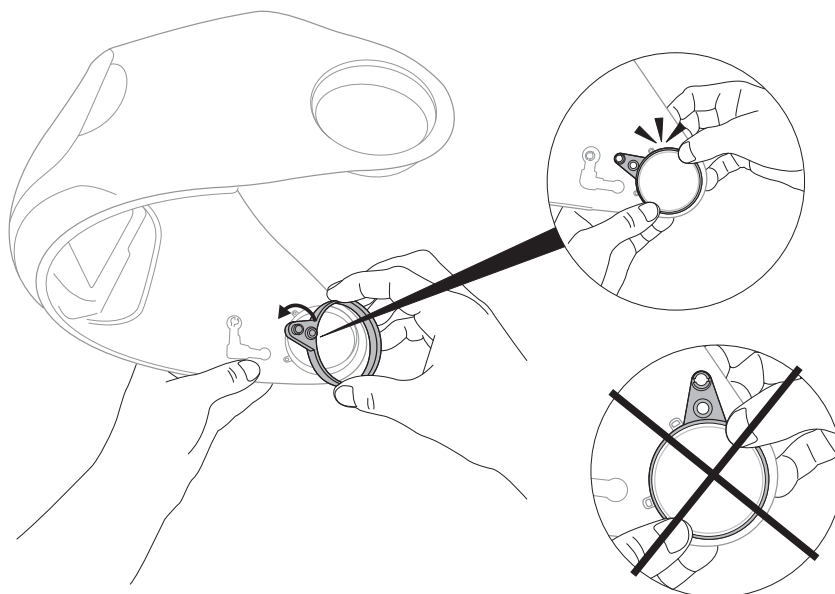

Fig. 26b
- c. To install the new pivot ring and hinge, position the pivot ring with small pivot post facing toward the ADF. There are two small stops for the pivot ring – the post goes between these stops. Press the pivot ring over its large circular post, pressing firmly until it “snaps” into place (Fig. 26b). If installed correctly the pivot ring will pivot freely up and down about 60-degrees.